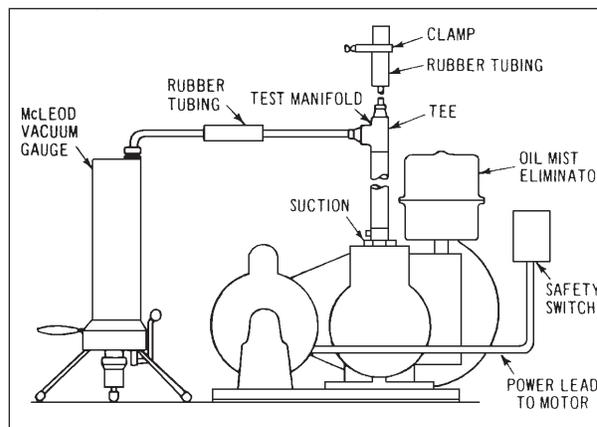

Figure 6-1 – Pump Test Manifolding
NOTE: If possible, also read the blank-off pressure with a thermistor or thermocouple gauge. See *Figure 6-1* and *Table 6-1* for common faults in vacuum systems.
1. Close off the pump inlet by means of a vacuum valve or short segment of manifolding, as shown in **Figure 6-1**.